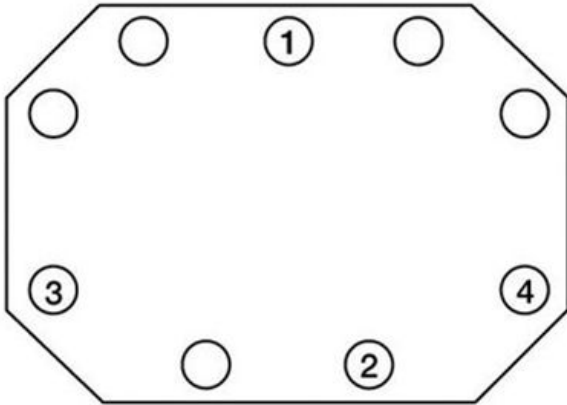

Figure 23. Bolt Tightening Sequence 1.
2. Torque four new M8 x 30 heat-resistant bolts to 45 lb-in (5 N·m) in bolt tightening sequence 1 (Figure 23).